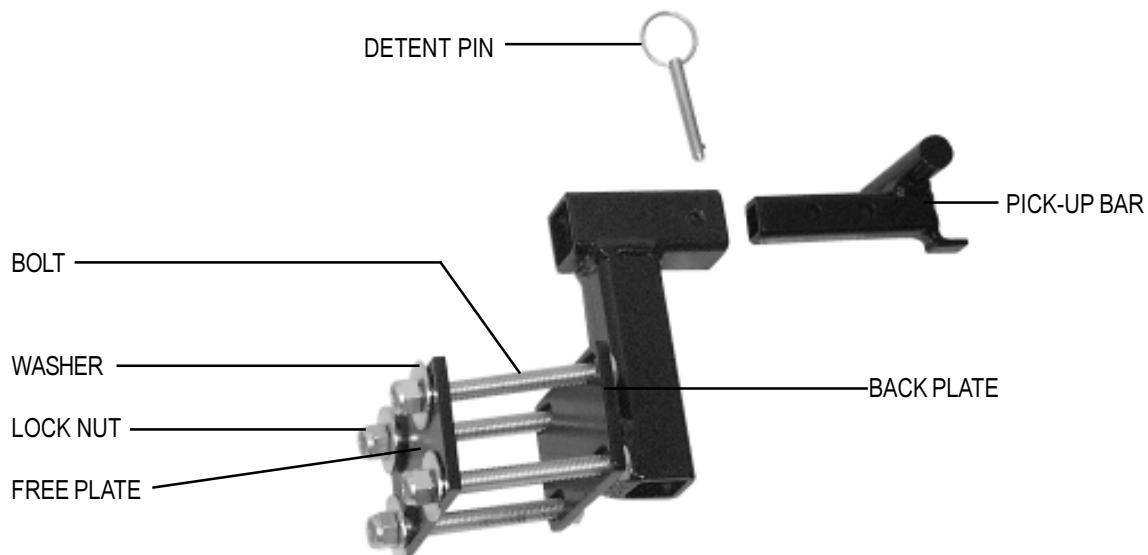

FIGURE 19.
Use figure 19 for the correct assembly of the docking device.
2. Place the back plate of the docking device against the front of the power seat post. See figure 19.
3. Place the free plate against the opposite side of the power seat post. See figure 19.